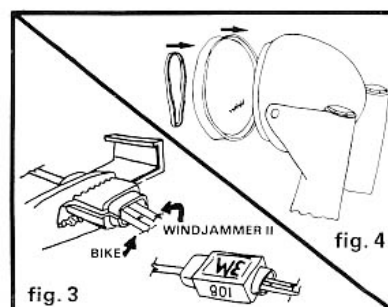

fig. 4
7. Install the plastic headlight cover - see figure 4. Use a heavy rubber band or tape to secure the cover to the headlight nacelle. The motorcycle headlamp is not replaced.